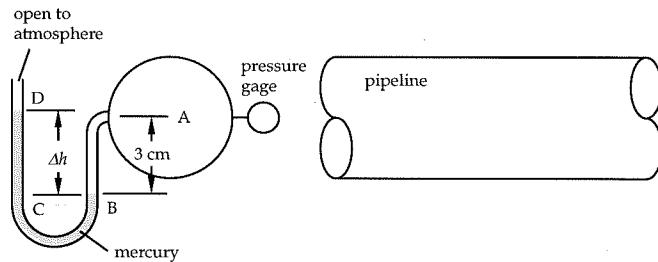

FIGURE P2.22.
22. Figure P2.22 shows a portion of a pipeline that conveys benzene. A gage attached to the line reads 150 kPa. It is desired to check the gage reading with a benzene-over-mercury U-tube manometer. Determine the expected reading Δh on the manometer.